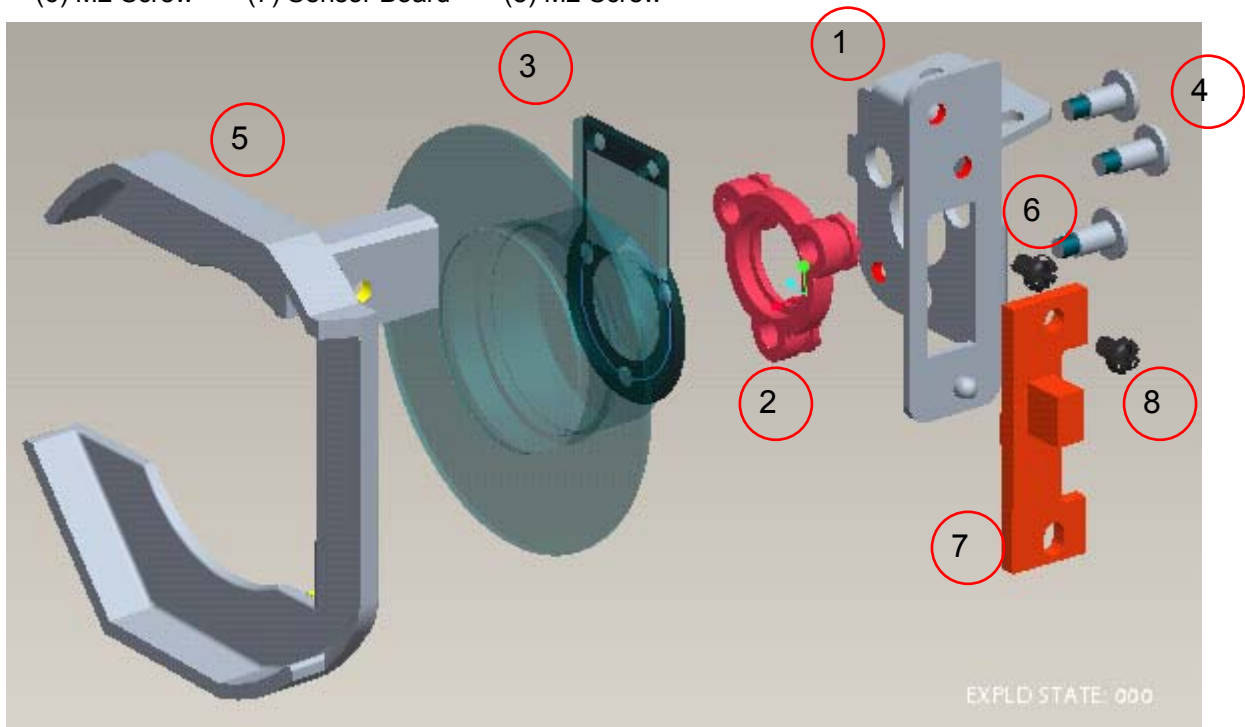

Fig. 3-1
3.1 CW Module Assembly Sequence as blow (Fig. 3-1):